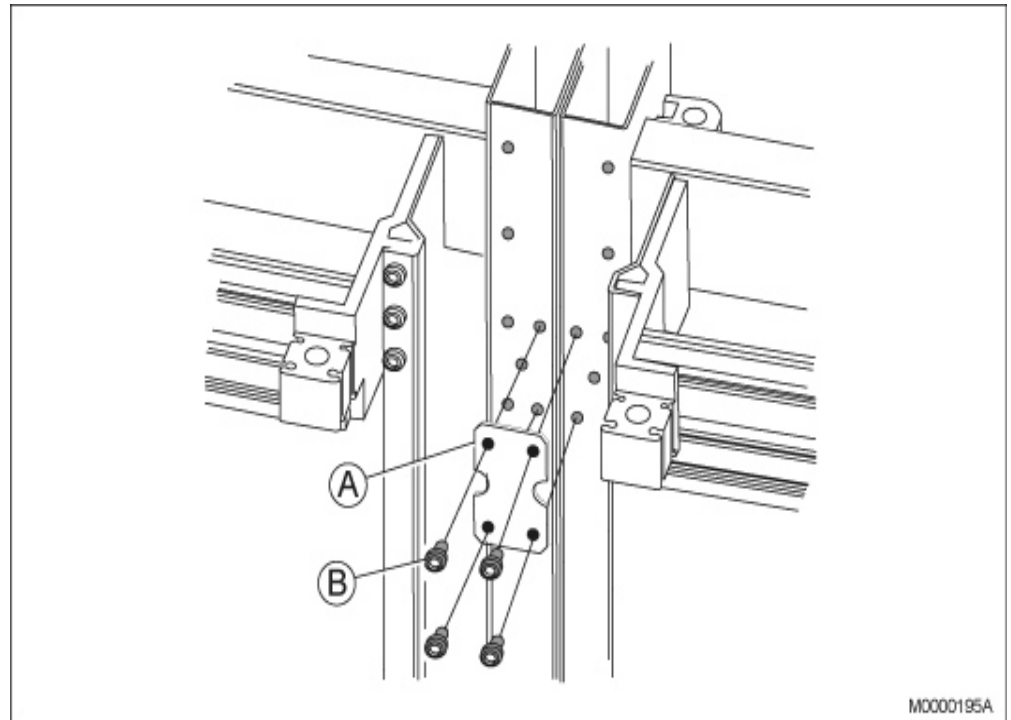

Figure 11: Fastening the Cabinets Side-by-Side
1. Position the two cabinets side-by-side, see Figure 11:Fastening the Cabinets Side-by-Side on page 18
3. Fasten the two cabinets together side-by-side with three plates (A) and twelve screws (B) at the top, the middle, and the bottom of the two cabinets.